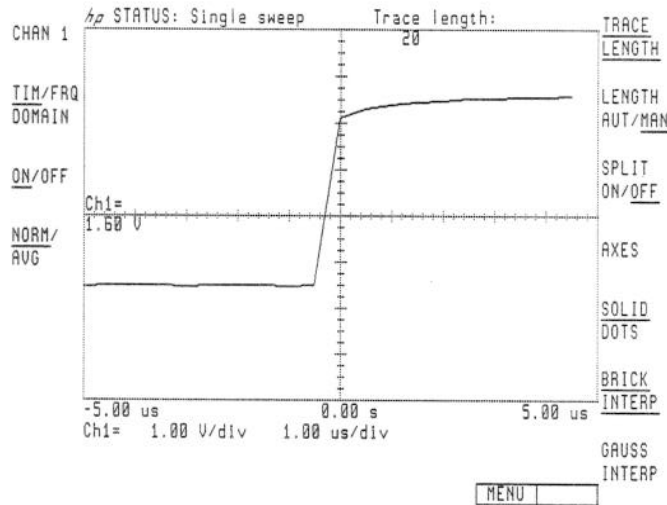

Figure 2-7. Sync Output
4. The displayed pulse should originate near the center graticule. See Figure 2-7. Verify that the "high" and "low" voltages meet the standard TTL requirements; that is, the high should be  $\geq 2.4V$  and the low should be  $\leq 0.4V$ . (Note that this is a functional check only.)